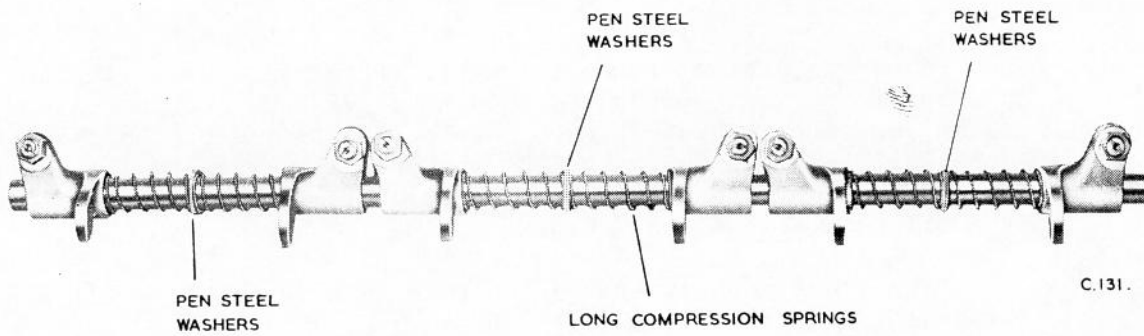

Fig.27 Exhaust rocker spindle assembly.
2. With the front end of the spindle to the right, fit No.1 R.H. exhaust rocker to the location shown in Fig. 27.
compression springs with two pen steel washers interposed and, finally, No.6 L.H. exhaust rocker (see Fig. 27).